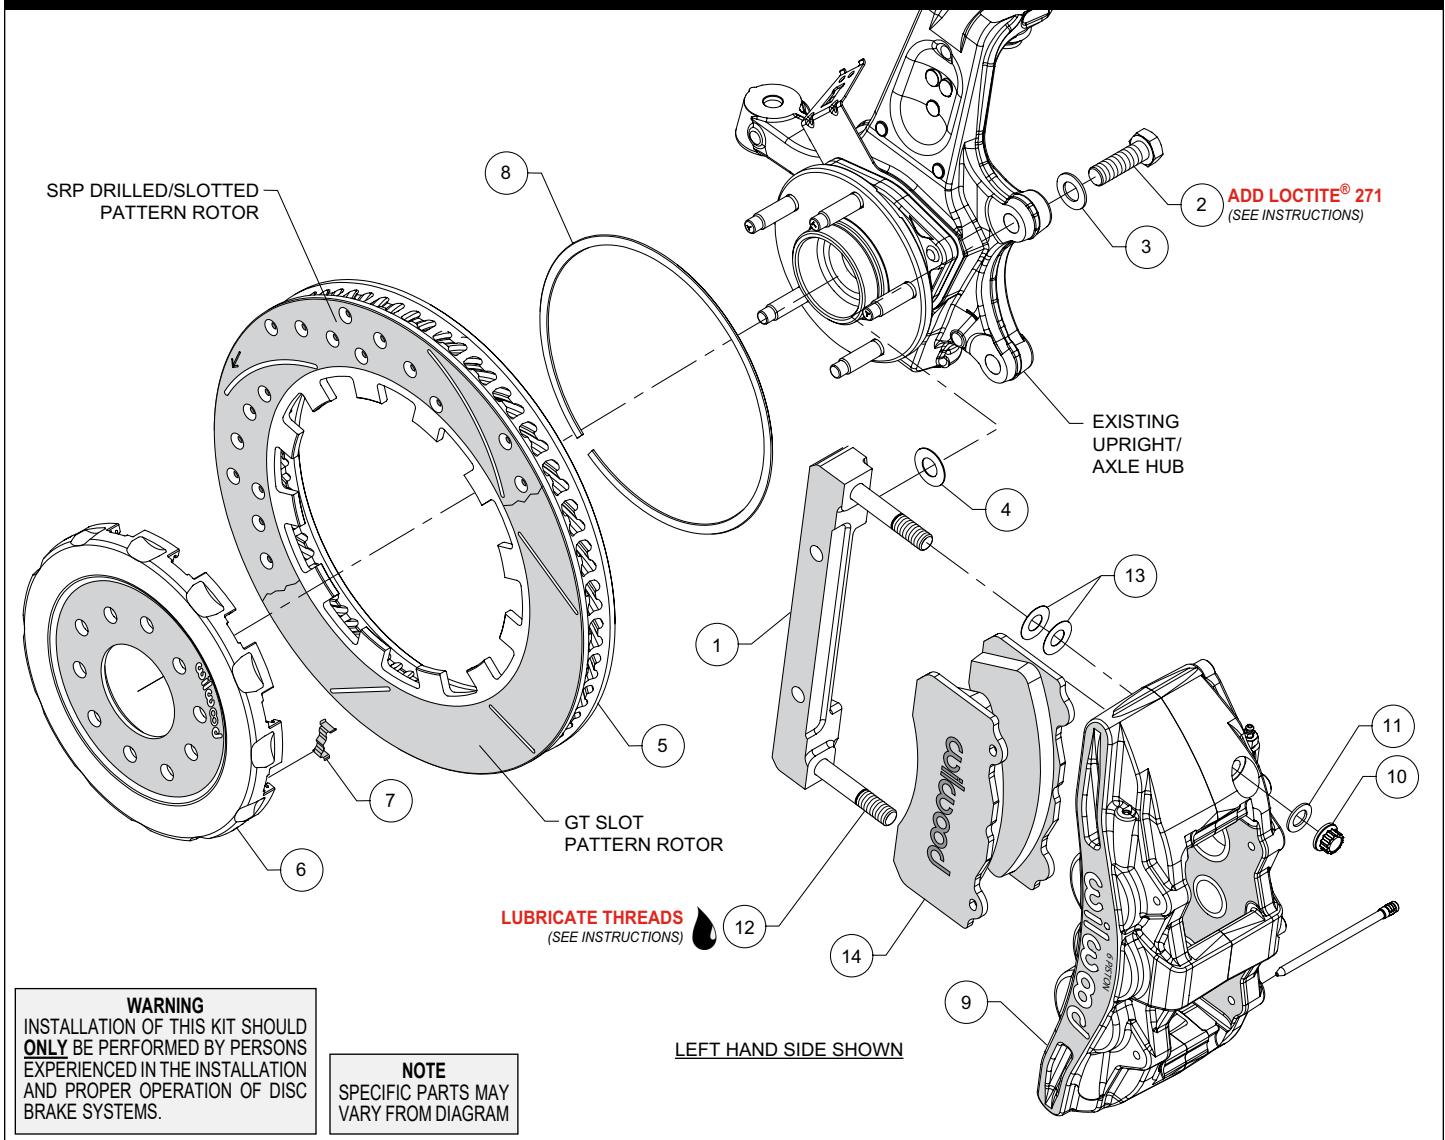

Figure 1. Typical Installation Configuration
NOTE: Numbers in parenthesis refer to the parts list and Figure 1 on the preceding pages.
- The caliper mount bracket (1) should initially be installed with clean, dry threads on the mounting bolts. Orient the bracket, as shown in Figure 1 and Photo 1, and install using bolts (2) and washers (3). Initially place one .029" thick shim (4) on each bolt between the bracket and upright, Figure 1. Temporarily tighten the mounting bolts. **NOTE:** The bracket must fit squarely against the mount bosses on the upright. Inspect for interference from casting irregularities, machining ridges, burrs, etc. Later, after the caliper alignment has been checked, the mount bolts will be secured using red Loctite® 271.
- Insert the dynamic mount wear clips (7) into the slots in the hat (6), Photo 2. Orient the rotor (5) as shown in Figure 1 and Photo 3, with the flush side of mount lugs facing the hat. Secure the rotor to the hat using the snap ring (8) by simultaneously pushing down on the rotor and installing the ring into the groove in the hat, as shown in Photo 4. Carefully inspect snap ring to ensure complete engagement in the groove.
- NOTE:** This kit contains distinct right and left hand calipers that must be mounted in a specific direction, as described below. Lubricate the caliper mounting studs (12) with lightweight oil. Initially place two .015" thick shims (13) on each stud between the caliper and the bracket, as shown in Figure 1 and Photo 6. Mount the caliper (9) onto the bracket (1) using lock nuts (10) and washers (11), Figure 1. Temporarily tighten the lock nuts. Ensure that the caliper is mounted so the largest pistons are at the rotor exit end of the caliper, in relation to the forward direction of the rotor. View the rotor through the top opening of the caliper. The rotor should be centered in the caliper, Photo 7. If not, adjust by adding or subtracting shims (4) between the bracket and the upright. Always use the same amount of shims on each of the two mounting bolts. Once the caliper alignment is correct, remove the bracket mounting bolts (2) one at a time, apply red Loctite® 271 to the threads, and torque to 77 ft-lbs.
- Remove the two pad retaining pins from the caliper (9) by pushing out the pins from the tapered end using a blunt instrument. Insert the brake pads (14) into the caliper from the bottom, Figure 1 and Photo 8. With the friction material facing the rotor, secure the brake pads in place with the pad retaining pins, Photo 9. Reinstall the caliper onto the caliper mounting bracket and temporarily tighten the lock nuts. Check that the top of the brake pad is flush with the outside diameter of the rotor, Photo 10. If not, adjust by adding or subtracting shims (13) between the caliper and the bracket. After the caliper pad height is set, torque the caliper lock nuts (10) to 65 ft-lb.